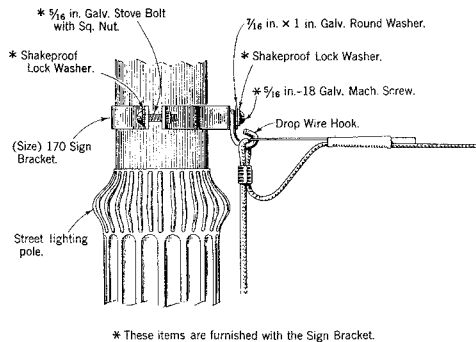

Fig. 10 — Attachment to Type 170 Sign Bracket
6.02 Attach drop wire to metal street lighting, traffic signaling, or trolley pole by means of a drop wire hook fastened to a type 170 or 188 sign bracket as illustrated in Fig. 10 and 11. The diameter of the pole determines the type of sign bracket to be used, as follows: